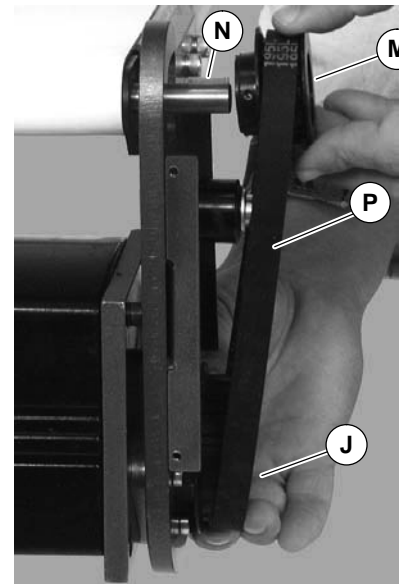

Figure 11
5. Install key (N of Figure 11).